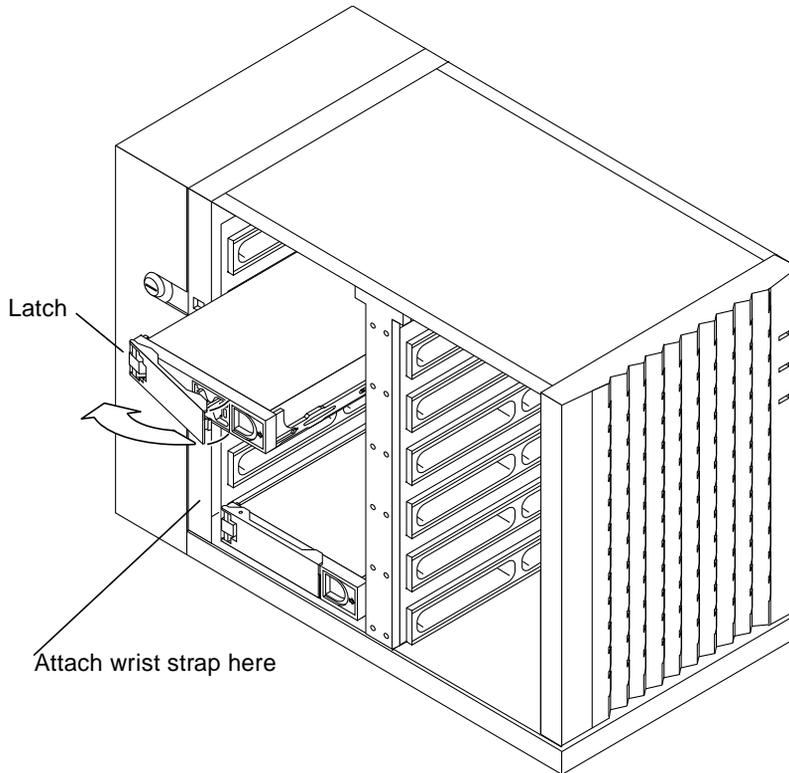

FIGURE 2-3 Removing the Disk Drive
3. **Attach a wrist strap to your wrist and to the section of chassis exposed at the left of the drive bays (FIGURE 2-3).**
1. **With the bracket extended, insert the disk drive into the drive bay, aligning the connector on the drive with the connector on the backplane (FIGURE 2-3).**